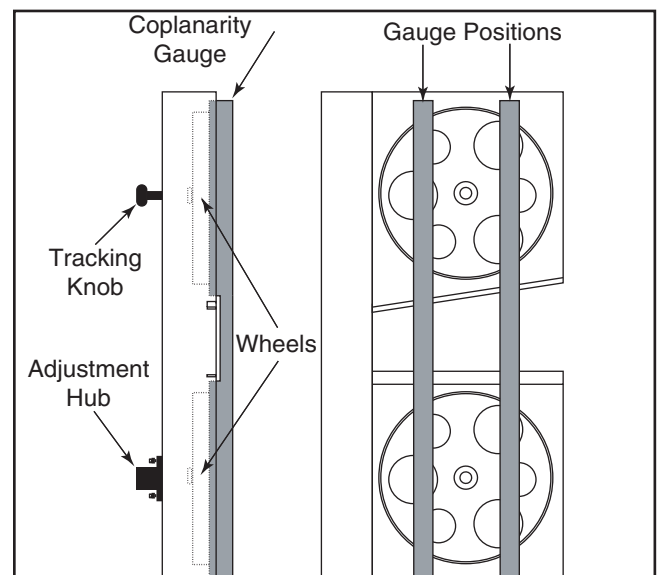

Figure 46. Checking for coplanarity.
4. Place your gauge up against both wheels in the positions shown in **Figure 46**.